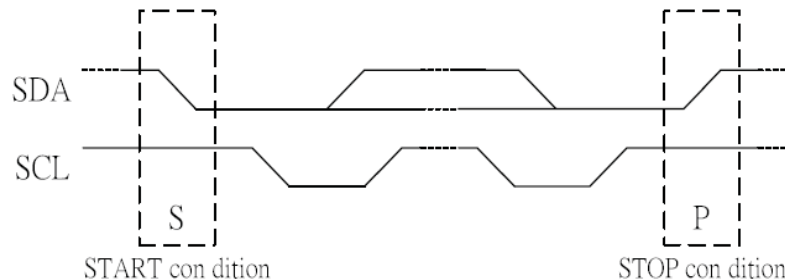

Fig .9.2 Definition of START and STOP conditions
Both data and clock lines remain HIGH when the bus is not busy. A HIGH-to-LOW transition of the data line, while the clock is HIGH is defined as the START condition (S). A LOW-to-HIGH transition of the data line while the clock is HIGH is defined as the STOP condition (P). The START and STOP conditions are illustrated in Fig.9.2